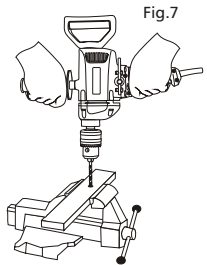
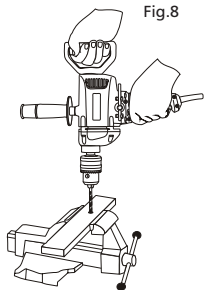

Fig.7
Fig.8
The workpiece to be drilled should be secured in a vise or with clamps to keep it from turning as the drill bit rotates (fig. 7).
2. Hold the drill firmly with both hands. Use your left hand to grasp the main handle and switch and your right hand to grasp the side assist handle (fig. 7). If the side assist handle cannot be used due to inadequate space, use your right hand to grasp the swivelling "D" handle (fig. 8).